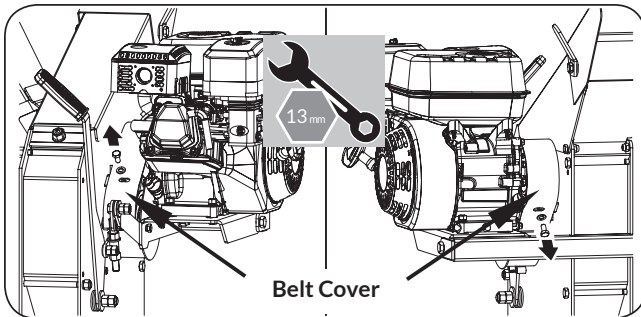

Figure 26
3. Remove the upper belt guard from the front housing and the lower belt guard from the engine base by taking off the fixing bolts respectively. (See Figure 26)